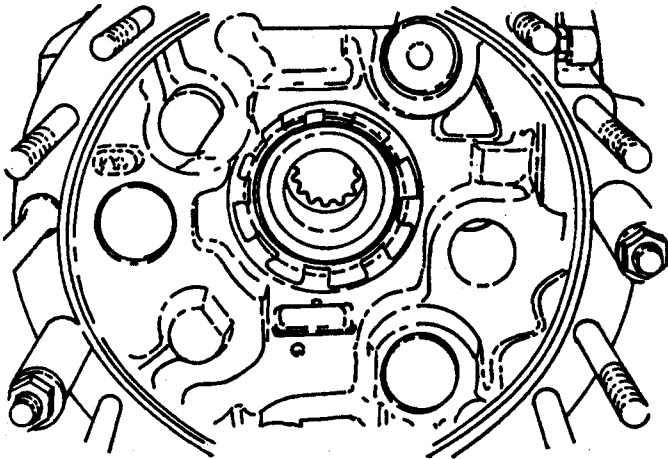

Figure 12.
14. Adjust bearing rings to alter bearing preload, but do not lock them at this stage (Figure 12).